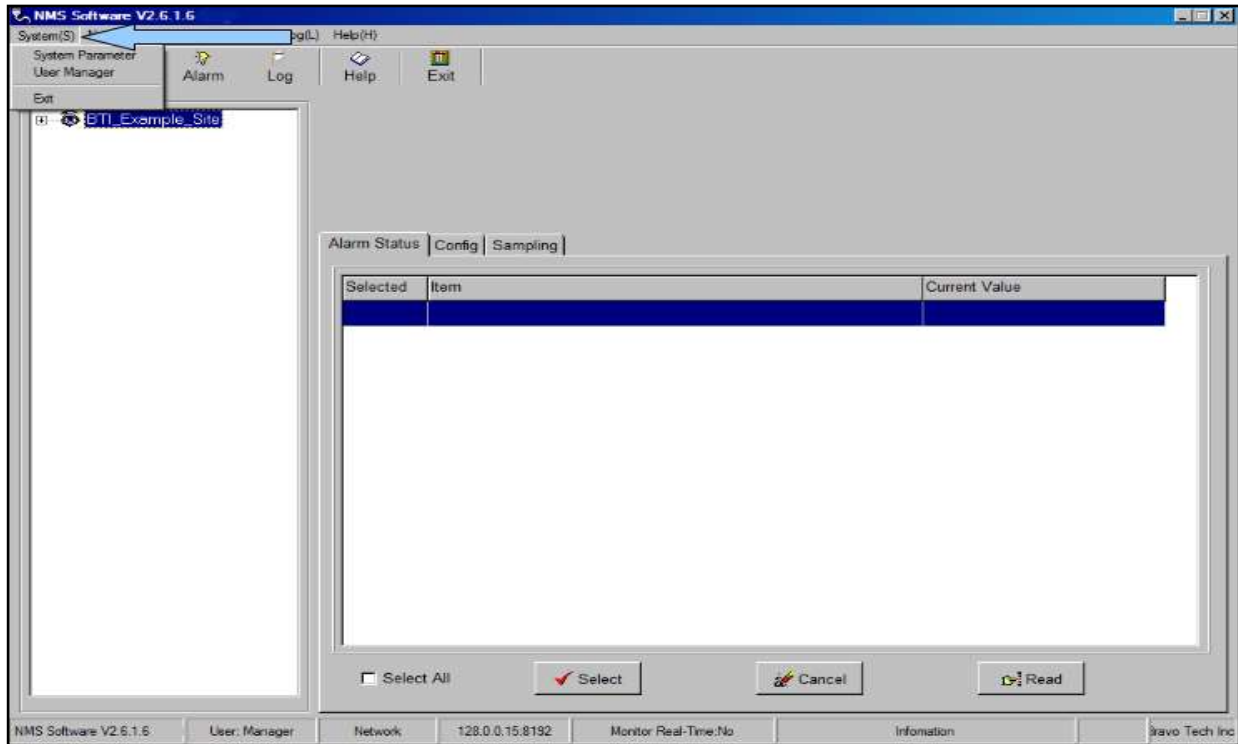
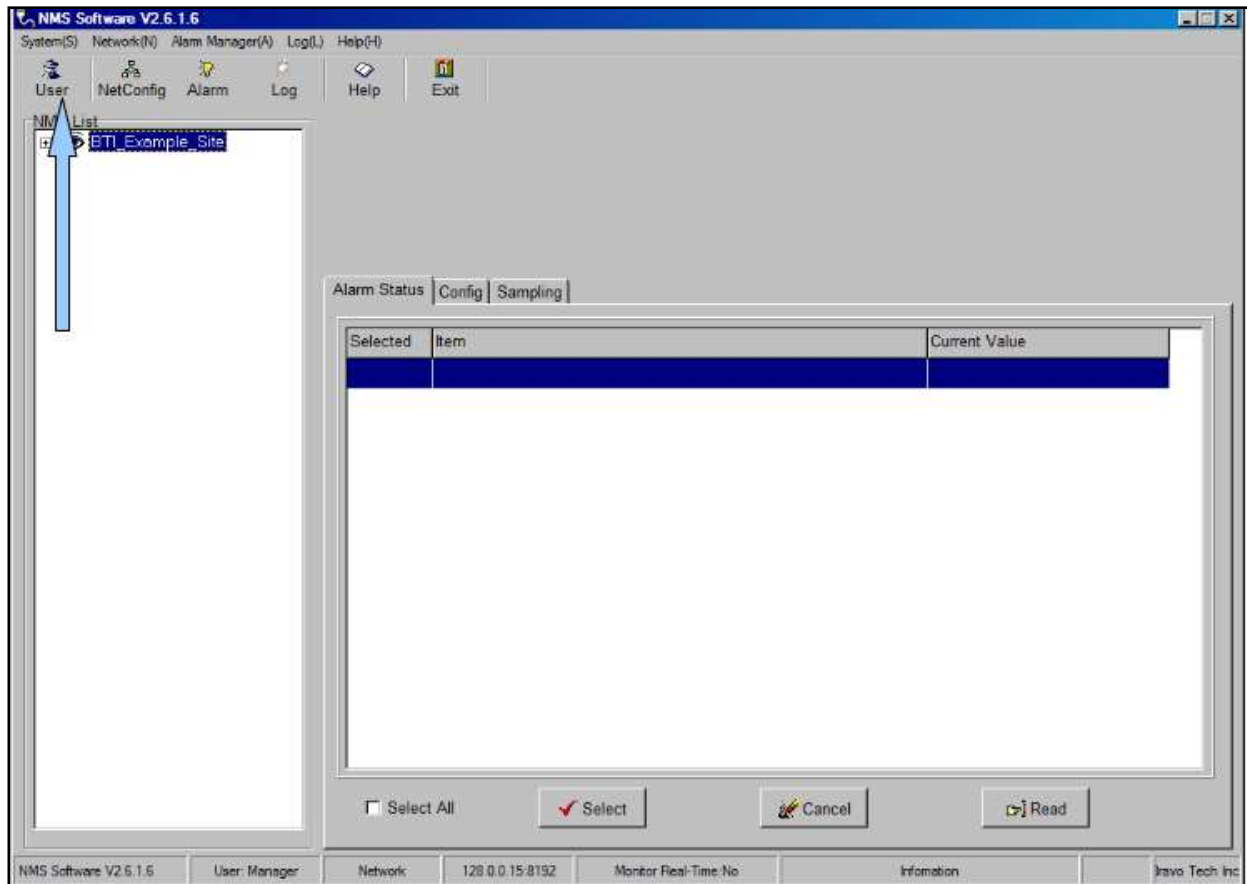
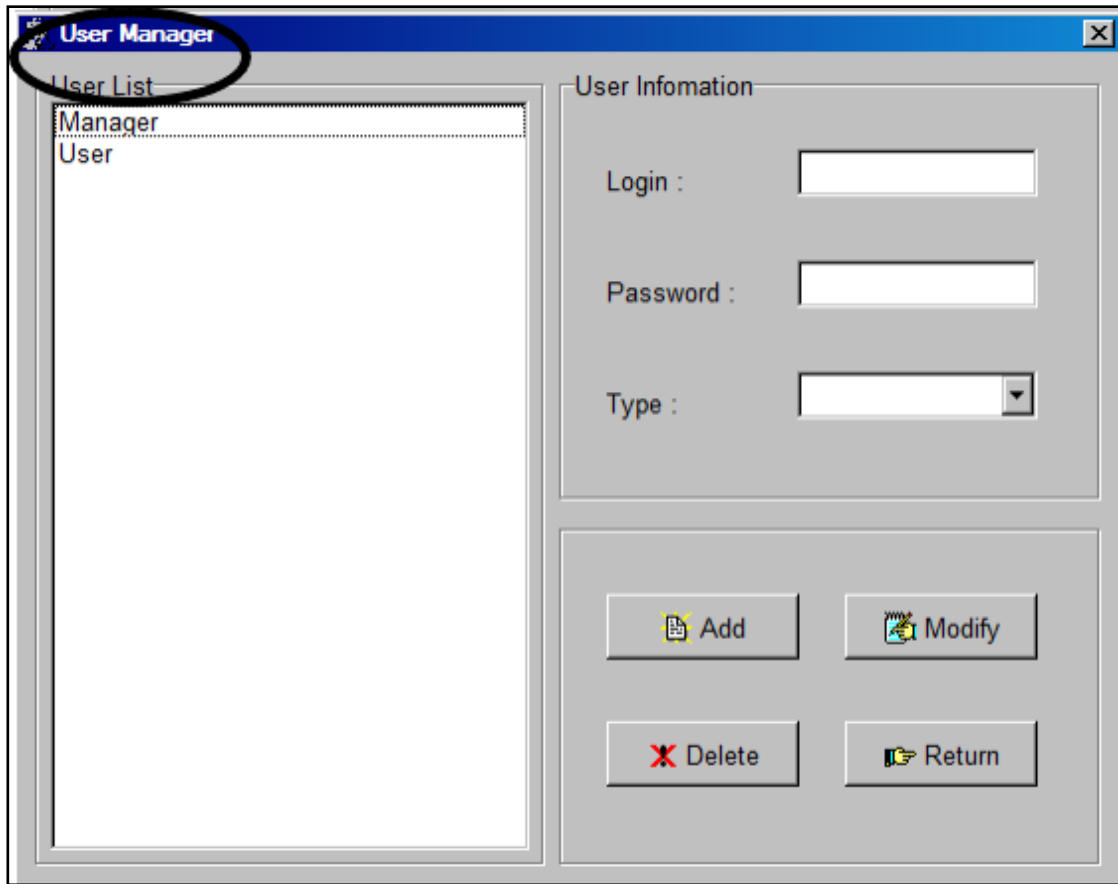

Figure 4-39. System (S) Drop Down Menu
Figure 4-40. User Account Icon
Figure 4-41. User Manager Screen
Main access to the NMS software configuration is through the *System(S)* drop down on the Menu bar as shown in **Figure 4-39**. User accounts may also be accessed through the User Icon on the Command toolbar as shown in **Figure 4-40**. The software system configuration includes the ability to access the
1. Using either the System(S), **Figure 4-39** or the User icon, **Figure 4-40**, access the User Manager screen, **Figure 4-41**.